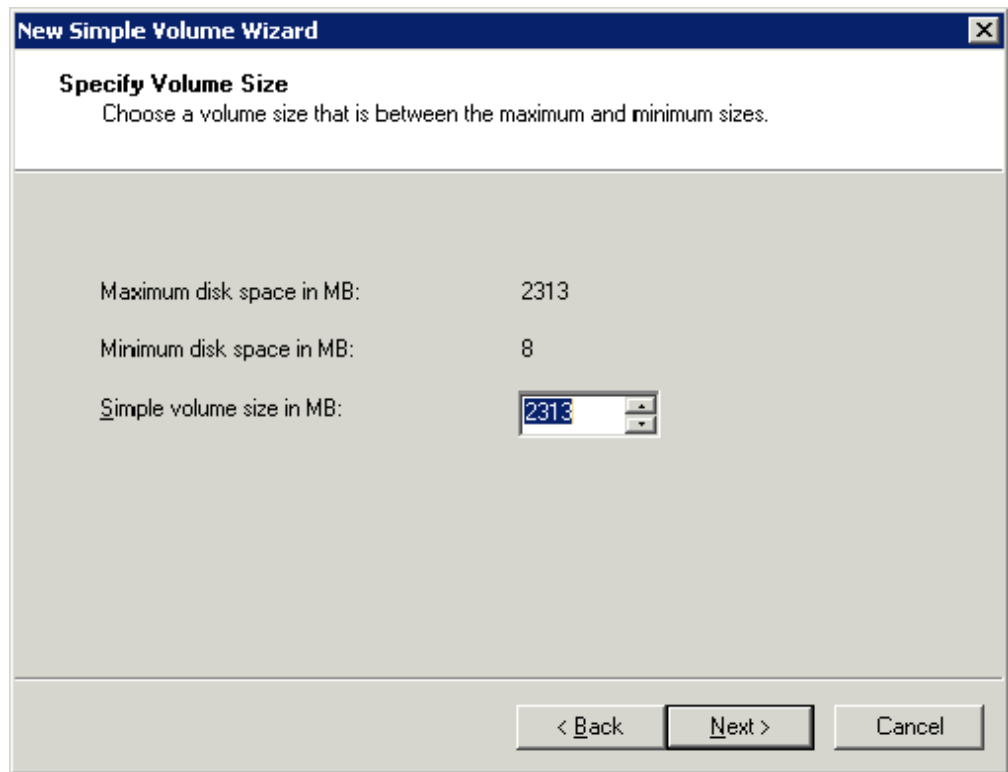

Figure 2-18: Specify Volume Size Panel
5. When the Specify Volume Size panel appears (Figure 2-18 on page 2-23), specify the desired volume size. If the size is greater than 1024 MB, you will be asked to confirm the new volume. Click **Next**.